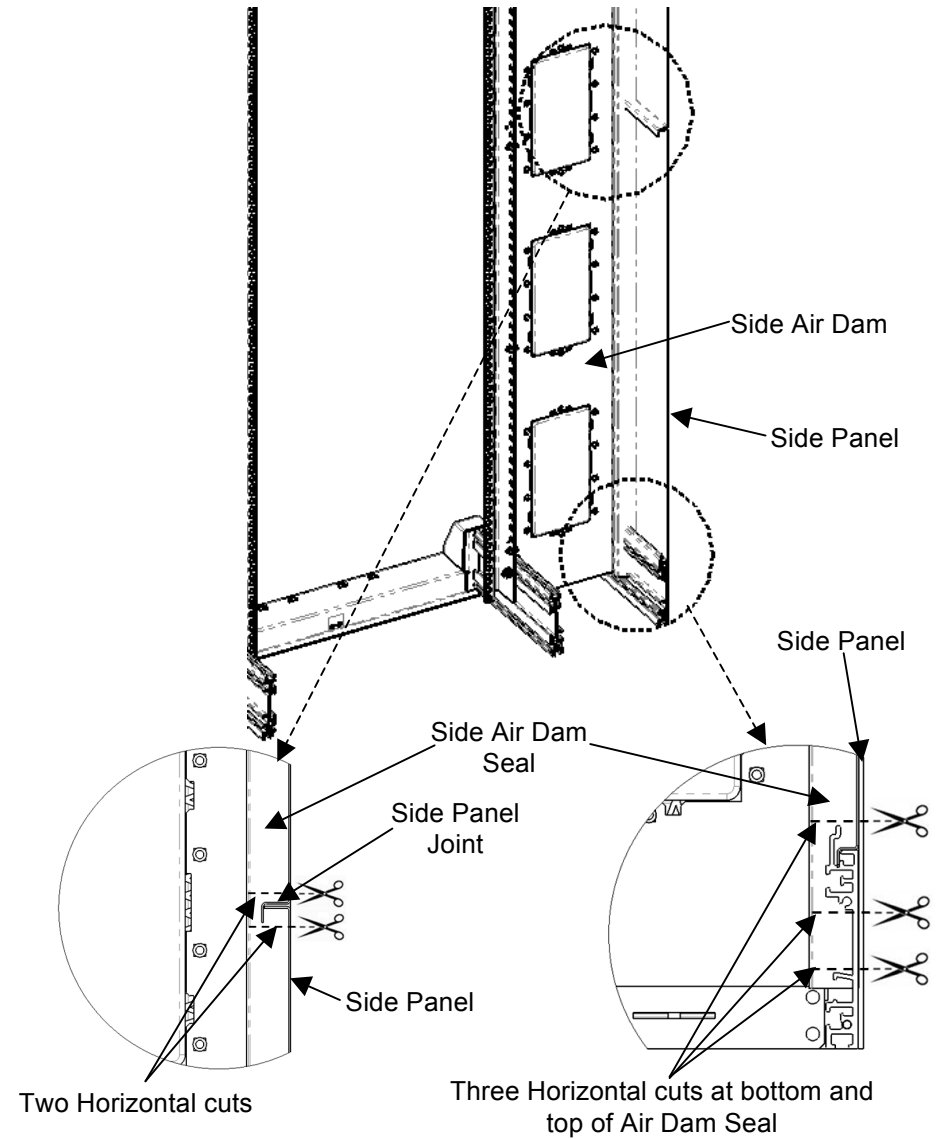

Fig. 10
7. Cut the flexible part of side air dam seal around the slides and side panel center joint. See the Fig. 10 for location of the cut.